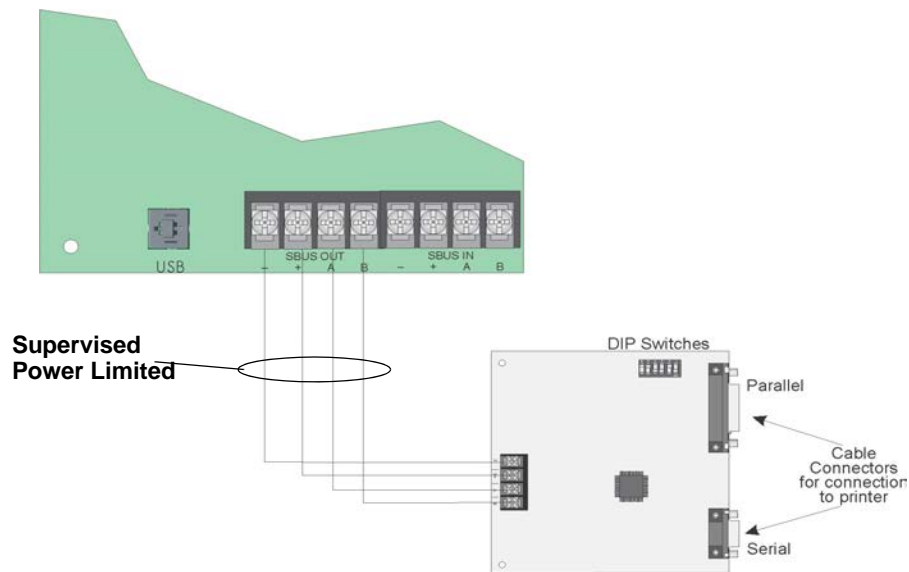

Figure 4.33 5824 Connection to the Panel
2. Connect the 5824 to the panel as shown in Figure 4.33.
5. Connect a printer to the 5824 as shown in Figure 4.33.